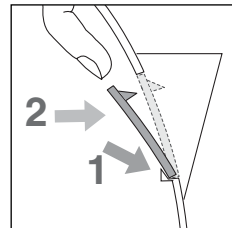

Fig. 3
- Replace the filter sliding it firmly down (see fig. 3).